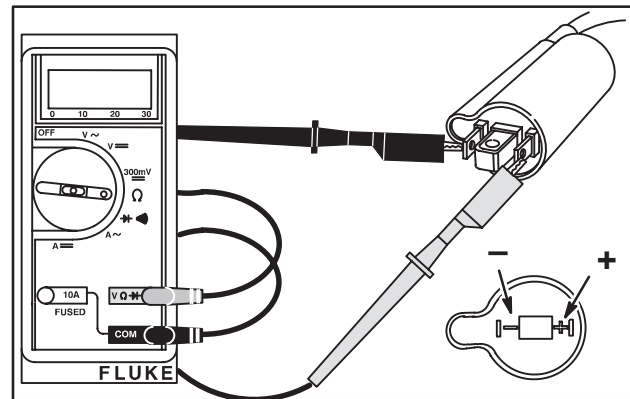

Fig. 7 – Testing Ignition Coil Primary
1. Check coil primary resistance between **+** and **-** terminals as shown in Fig. 7.